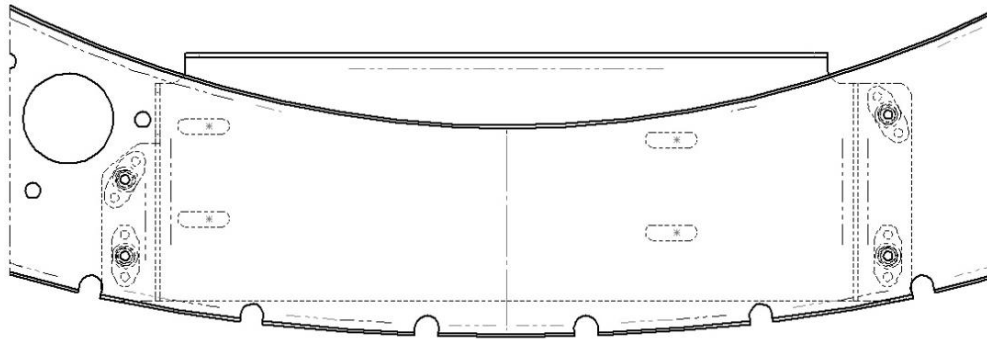

FIGURE B- 3 VIEW LOOKING AFT AT FS 95.00 FRAME
3. Position 1006238 pitch servo bracket adapter against the aft side of F.S. 95.00 frame centered about BL 0.00 as shown in Figure B-3 using bend relief cutouts as a guide and clamp into place.